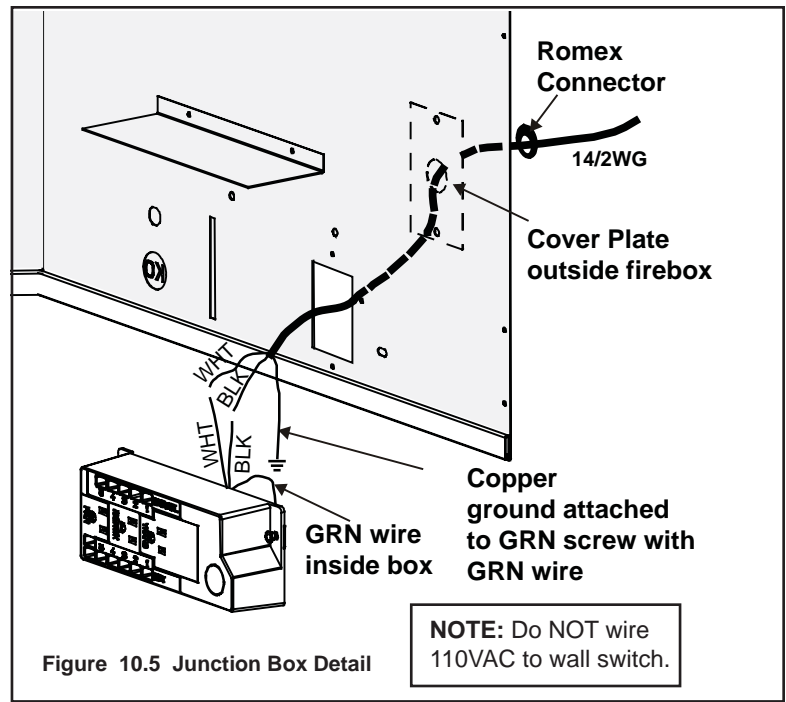

Figure 10.5 Junction Box Detail
This appliance requires a 110 VAC supply to the appliance junction box for operation. A wiring diagram is shown in Figure 10.4 and Figure 10.5.
- Remove the cover plate located on the outer shell - right side (see Figure 10.5).
- Remove the screw attaching the junction box/receptacle to the outer shell, rotate the junction box inward to disengage it from the outer shell (see Figure 10.5).